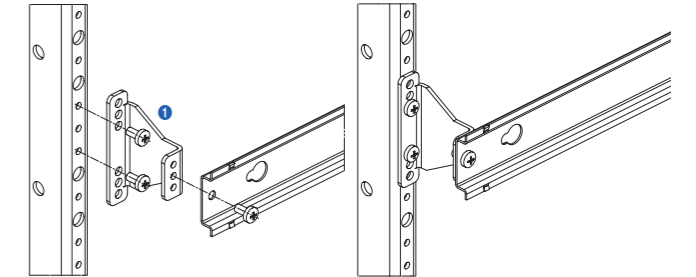

Fig. 4/5: Principle of DIN support rails combined with a set-up bracket and cover plate as a hood
**Set-up bracket for DIN support rails (Fig. 4 and 5)**